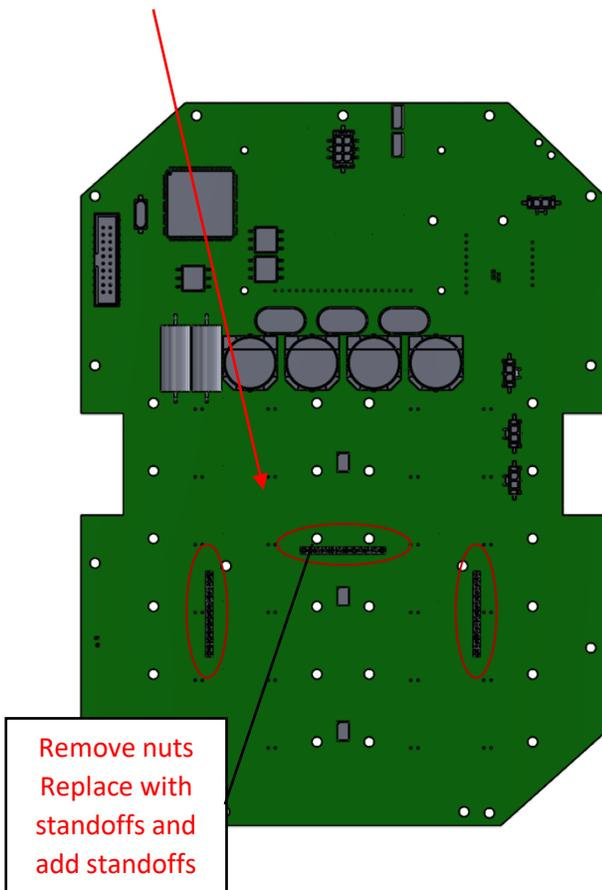
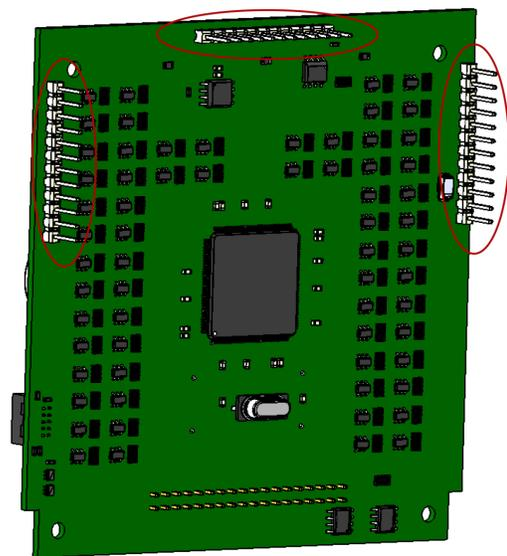

Figure 42
Figure 43
Follow steps 1-2 listed above, remove the (2) nuts on the back of the PC board. Insert standoffs and screw the standoffs into the OPN card as shown. Line up the pins of the OPN expansion card (see Figure 43) with the connectors located on the FM board and gently press until headers on OPN seat against connectors on the FM PCB. (see Figure 42). Secure with provided screws. Tighten until snug.